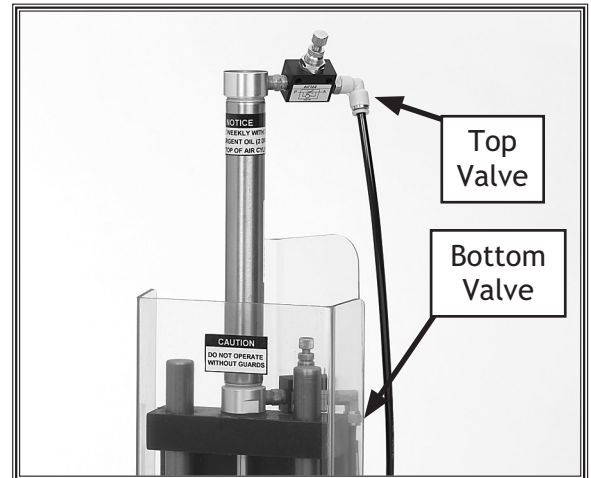

Figure 8. Air hose attachment locations.
1. Attach the hose connected to port "R" to the top valve (see **Figure 8**) on the air cylinder by pushing the hose into the fitting.